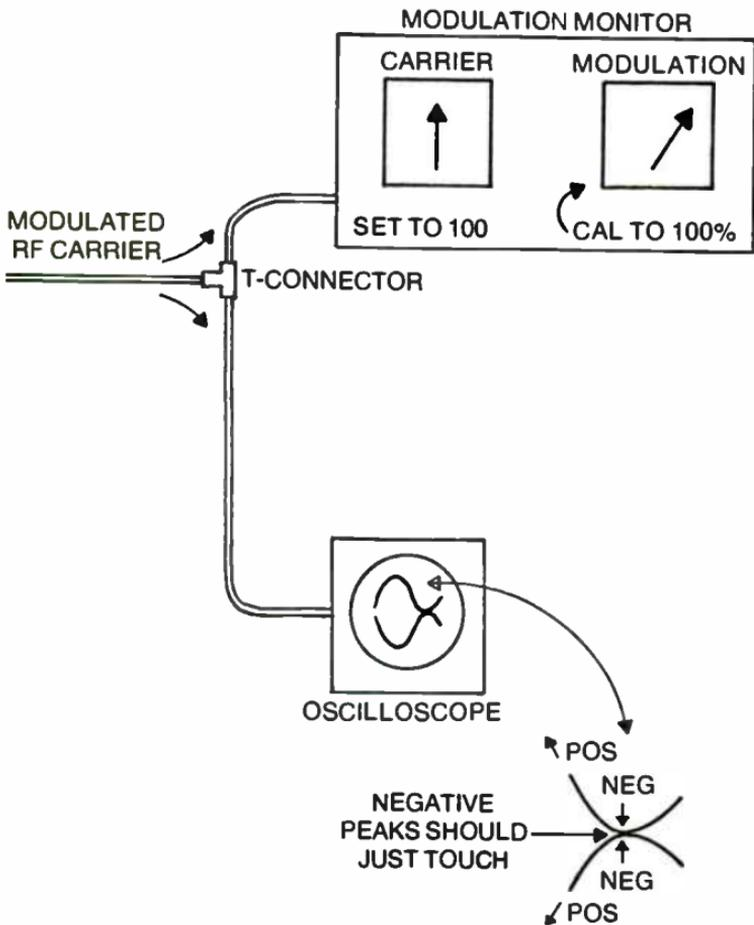

Fig 9-16. Use tone modulation on the carrier and oscilloscope to calibrate the AM modulation monitor for 100% negative modulation.
**AM Modulation Monitor**—The AM monitor should be calibrated with tone modulation and an oscilloscope (Fig. 9-16). Use the same setup as when balancing the modulators and observe the modulation envelope. How often to check this calibration depends upon experience with the monitor and how well it will hold calibration. When you have reached 100 percent negative modulation on the scope, then adjust the meter to read 100 percent. This sets the accuracy of the meter. Adjust the peak flasher at the same time. Some of the newer monitors have a built-in calibrator, but always use the transmitter and a scope as the final authority. You can obtain the AM RF for the scope from the same input to the monitor. Add a coax T-connector so the line can feed both the monitor and the scope.